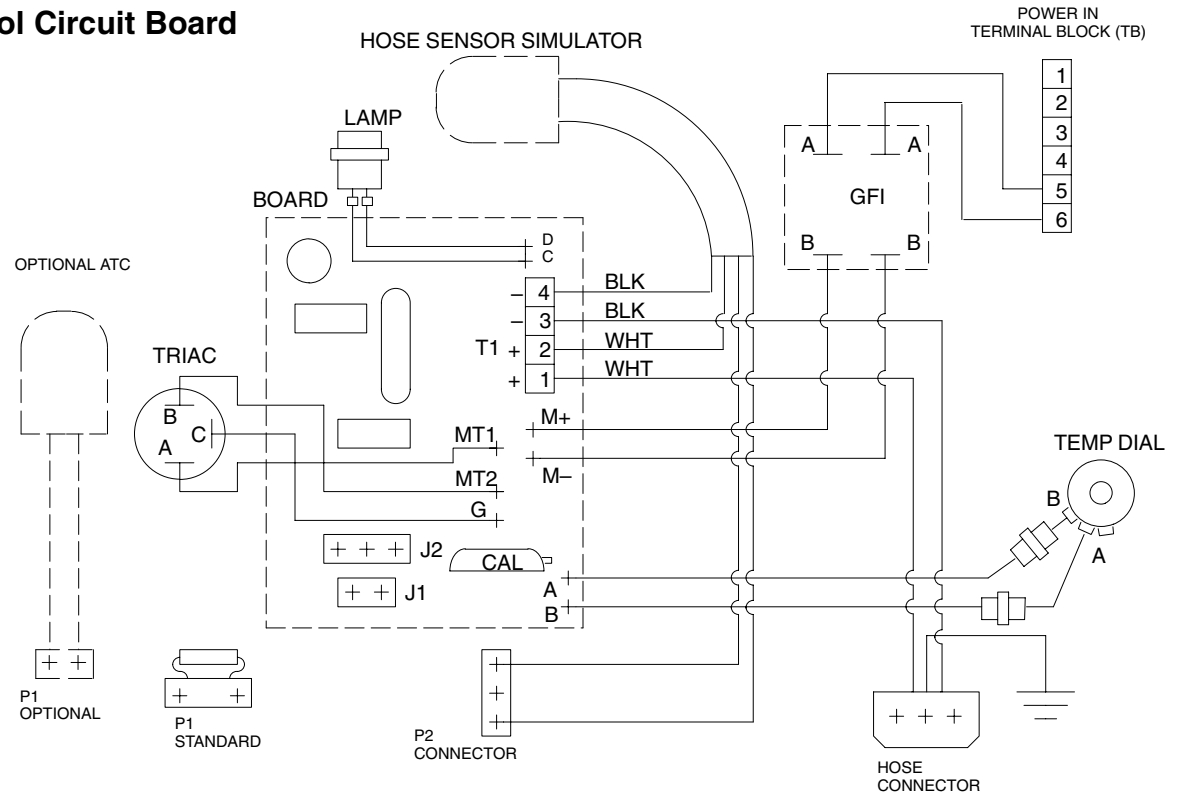

Fig. 11
3. Unplug the connector P2 at position J2 on the hose circuit board. See Fig. 11.
4. Using the procedure in **Setup**, page 20, disconnect the two leads from the hose sensor simulator (304) connect to the circuit board connector T1 at positions 2 and 4.